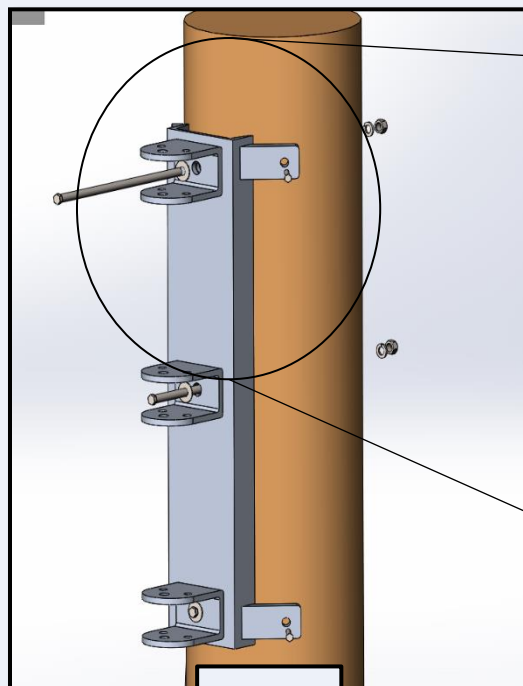

Figure 1
1. Using three (3) 5/8" Bolts (not included), secure the mount to the piling by inserting an appropriate bolt through each of the three (3) holes in the piling mount, and completely through the piling, as shown in figure 1.